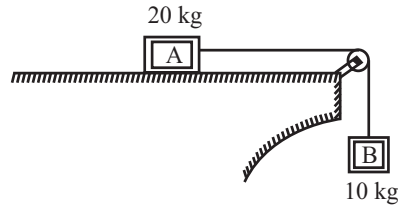

Fig 11.23
Q.27: Two blocks shown in fig 11.23, have masses $A = 20\text{N}$ and $B = 10\text{N}$ and the coefficient of friction between the block A and the horizontal plane, $\mu = 0.25$. If the system is released from rest, and the block B falls through a vertical distance of 1m, what is the velocity acquired by it? Neglect the friction in the pulley and the extension of the string.